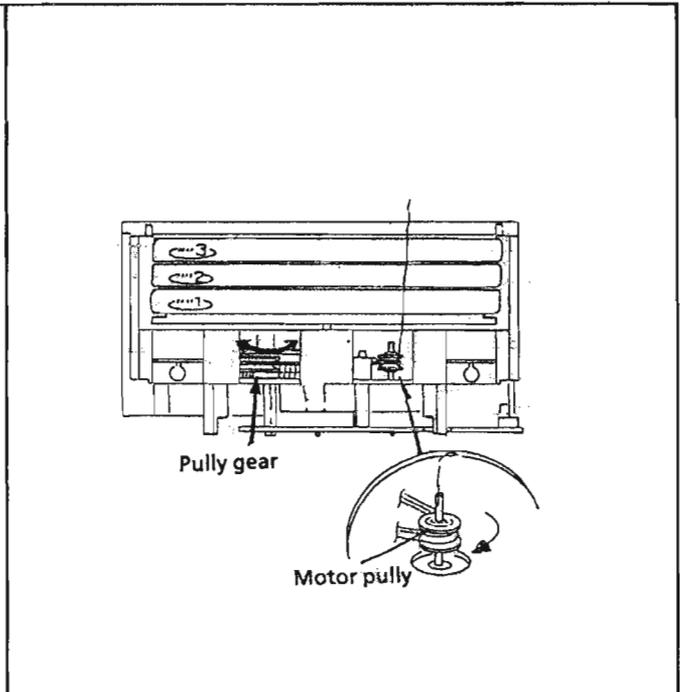
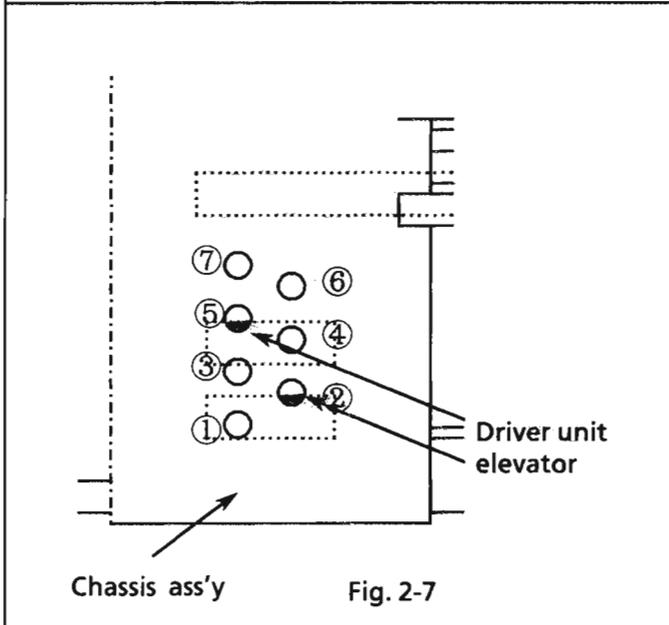

Fig. 2-8
Fig. 2-7
10. Check that the driver unit elevator is seen from a hole (marked (2) or (5)) on left side of the CD changer mech.. (See Fig. 2-7.)
[NOTE] Set the elevator in correct position (Fig. 2-7) by rotating the pulley gear with finger if it is not positioned correctly (Fig. 2-8.).
11. Rotate the motor pulley clockwise with finger until the lifter unit's stopper is lowered from (e) hole located on the CD tray ass'y. (See Fig. 2-8.)